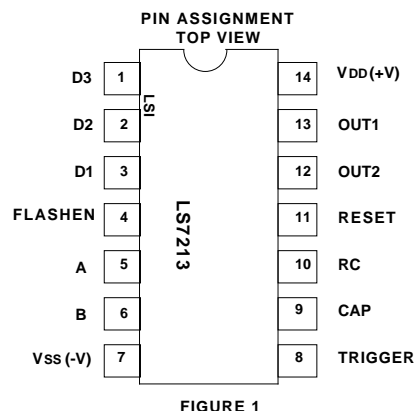

FIGURE 1
- LS7213 (DIP), LS7213-S (SOIC) - See Figure 1